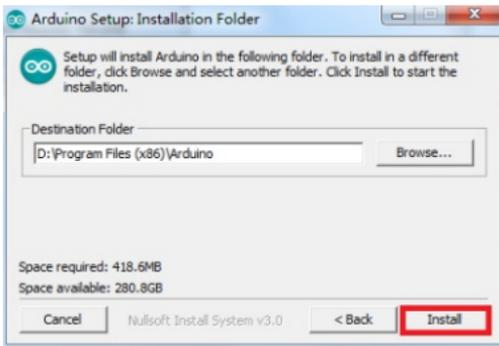

Figure 2 Download
Step 2: Press the button “JUST DOWNLOAD” to download the software shown in Figure 2
Step 6: When the dialog box pop up like Figure 2 shown, Select Always trust software for "Adafruit Industries" and click "Install".